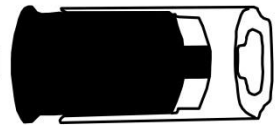

Figure 3
5. Ensure the notch in the chrome trim is aligned with the back of the plastic. It will only go on one way. (fig.3)